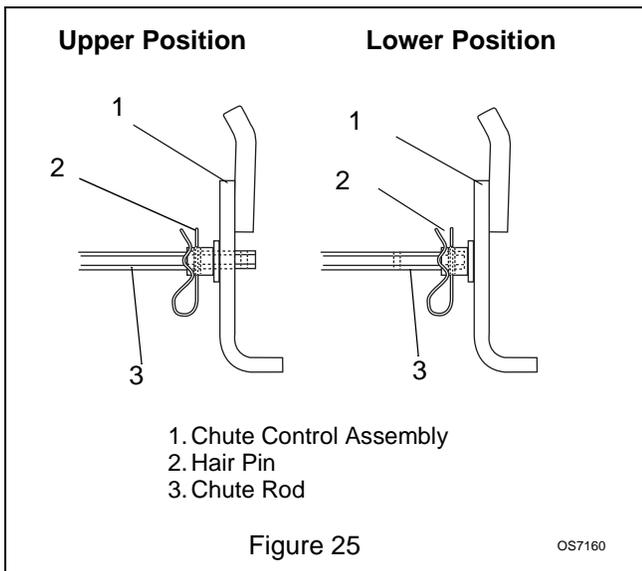

Figure 25
- Align correct chute rod holes in chute control assembly as shown in Figure 25, and then secure chute rod in position with hair pin remove in step 1.